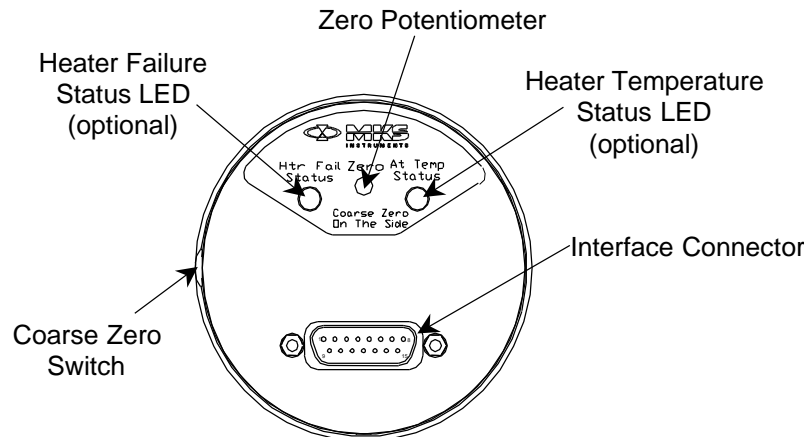

Figure 4: Top View of the E27F Manometer
The E27F manometer requires an external power source supplying ± 15 VDC ($\pm 5\%$) at ≤ 250 mA. Noise and ripple should be less than 20 mV peak-to-peak. You may use any readout device which has input capabilities of less than 0 to greater than 10 VDC, and impedance greater than 10K ohms. The power is introduced to the unit through the Interface connector on the top panel of the transducer (see Figure 4 on page 28).
The 15-pin male Type “D” Interface connector on the top of the unit (see Figure 4 on page 28) provides access to the power input and heater status pins. The pinout is listed in Table 6 on page 25. The connector is available with either thread locks or slide locks.
The zero potentiometer provides ample control under normal conditions. If the zero potentiometer fails to provide enough adjustment, use the coarse zero switch on the side of the unit (see Figure 4 on page 28). See *How To Adjust the Coarse Zero Switch*, below, for more information.
- Remove the plug that covers the COARSE ZERO switch. (See Figure 4 on page 28.)
The manometer zero can be set (or reset) by adjusting the ZERO potentiometer on the top panel of the unit (refer to Figure 4 on page 28), or at the front panel of any MKS or MKS-compatible power supply being used. Refer to *How to Adjust the Zero* on page 31 for complete instructions on how to adjust the manometer's zero controls.